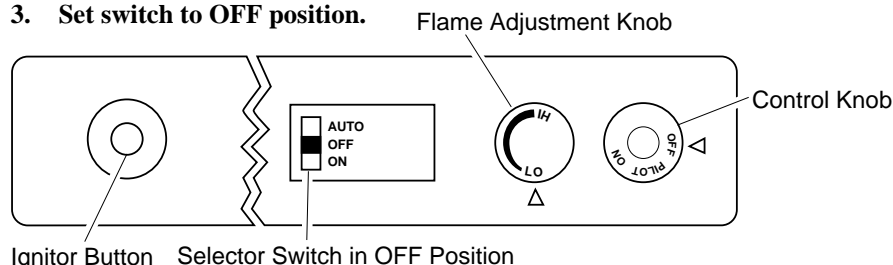

Figure 18 - Control Knob and Ignitor Button Location (Shown as Supplied, No Control Options)
5. Wait five (5) minutes to clear out any gas. Then smell for gas, including near the floor. If you smell gas, **STOP!** Follow "B" in the safety information. If you don't smell gas, go to the next step.
6. Press in and turn control knob counterclockwise  to the PILOT position. Press in control knob for five (5) seconds (see Figure 18).